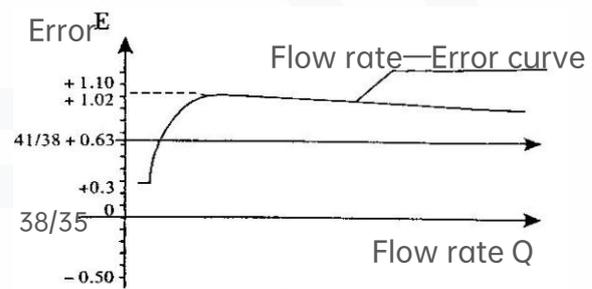

Figure 1
1. The standard double gear at the time of design is 38/35. If the flow meter is found to go faster during inspection, there will be (+) error, such as +1.02 ~ +0.3, the double gear 38/35 should be replaced by 41/38, then the error curve origin will be the zero position corresponding to the 38/35 gear. Move up to the position of the 41/38 gear pair at +0.6338/35 (see table), so that the error curve is in the new coordinate system, and the error of the flowmeter is adjusted in the range of +0.39 to -0.33 to meet the conformity requirements (see Figure 1).